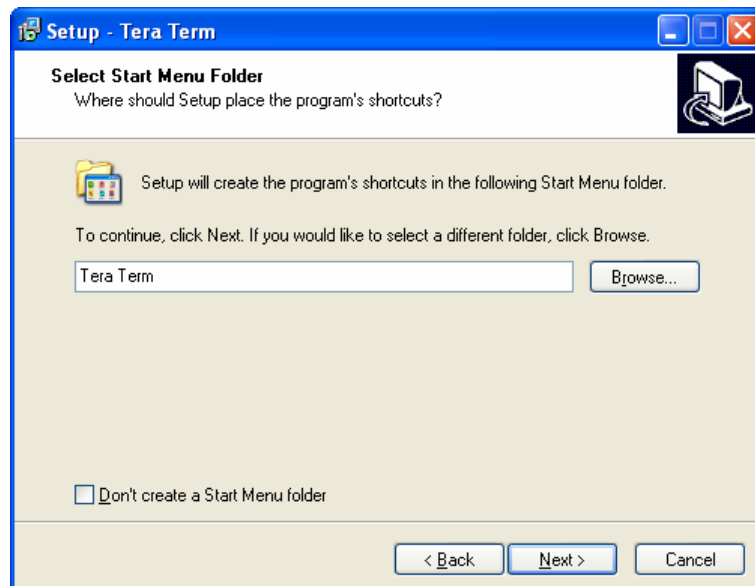

Figure 6-18: Select Start Menu Screen
12. At the Select Start Menu screen, click **N**ext (Figure 6-18).